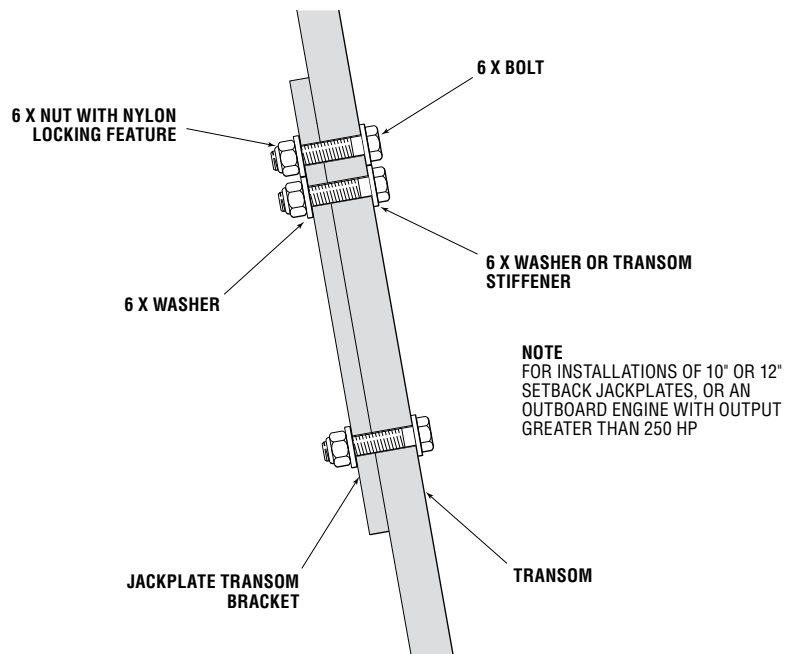

Figure 8. Jackplate to transom connection for 10" or 12" setbacks, or for outboards greater than 250 HP.
3. If the Jackplate setback is 10 inches or more, or if the outboard engine output is 250 horsepower or more, it is recommended to use 6 mounting bolts at the transom connection. Additional mounting bolts should be used in the upper holes on the Jackplate hole pattern. See figure 8.